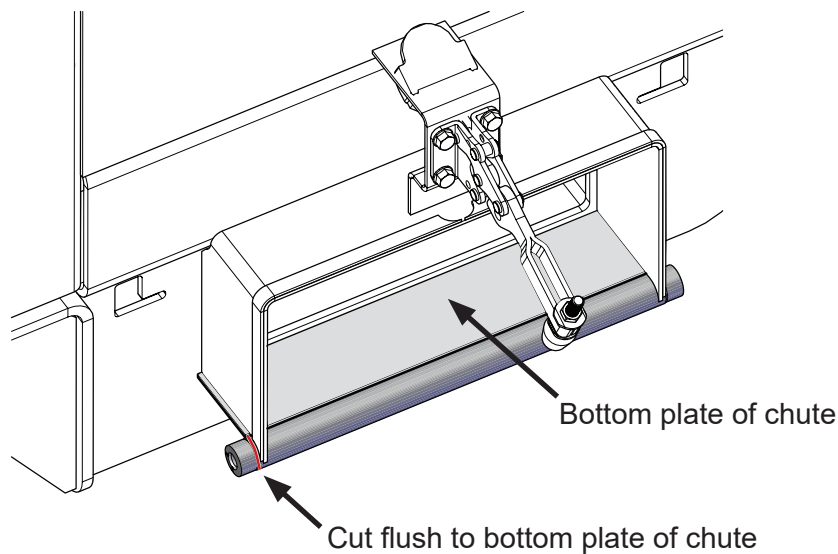

Figure 4
4. Using a permanent marker or machinist's marker, mark cutting lines on both chute side tubes to cut flush with the bottom plate of the chute. These tubes are where the door hardware secures the door to the chute. Figure 4 shows one side chute tube with cutting line; the other side chute tube is not as visible for clarity.